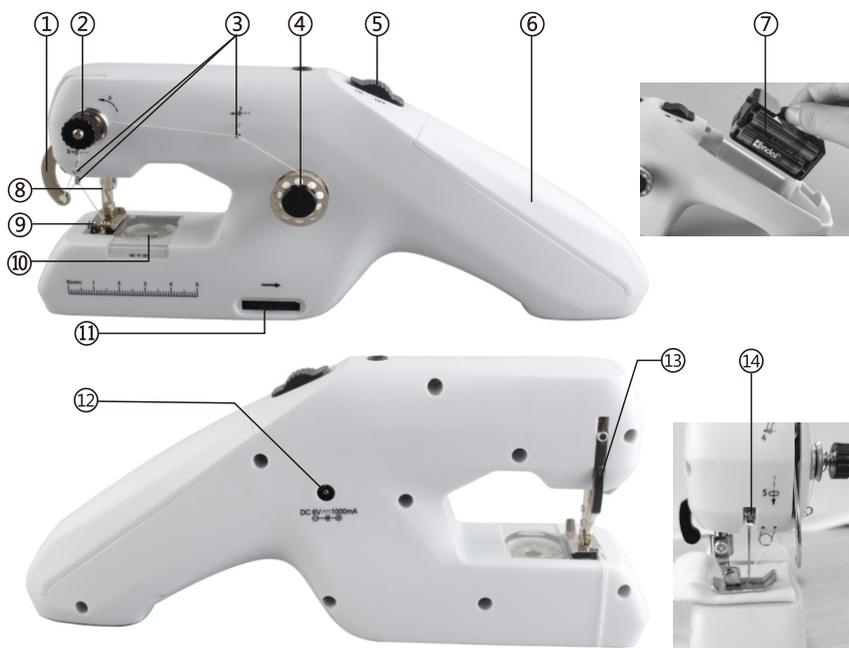

Fig. 2
3. Place an empty bobbin onto the bobbin winding pin, and put the thread tail through any hole in the bobbin (Fig. 2).